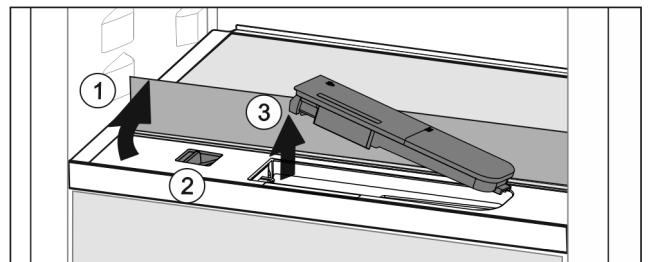

Fig. 43
- ▶ Lift the glass panel and fold to the back as far as it will go Fig. 43 (1).
- ▶ Slide the slider Fig. 43 (2) to the left.
- ▶ Remove the water tank Fig. 43 (3).